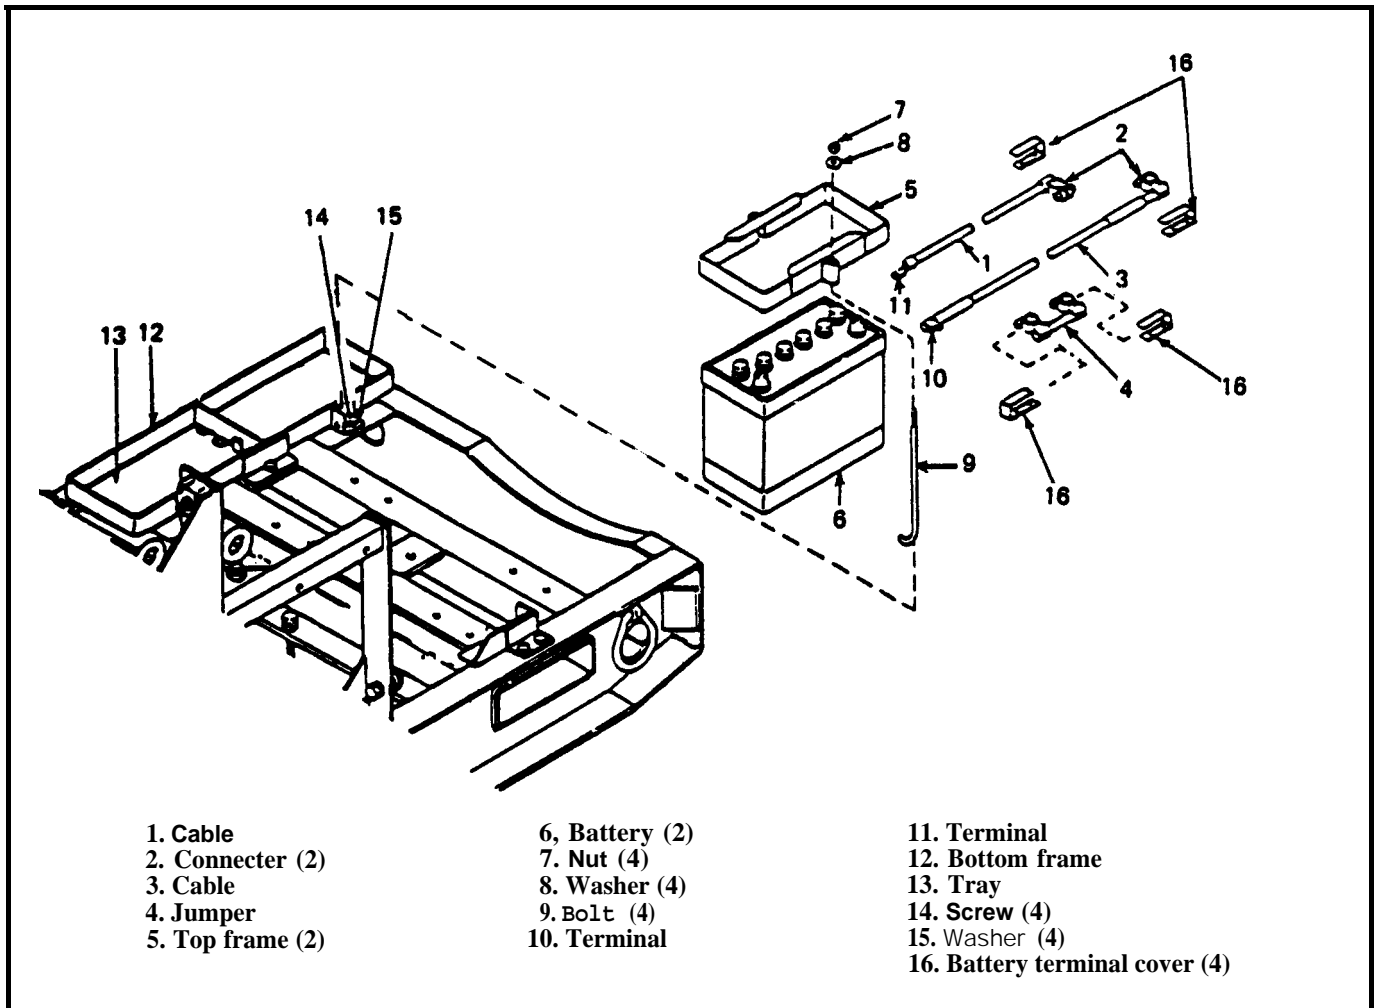

Figure 3-2. Battery Assembly
a. Inspect (see figure 3-2). On generators equipped with acoustic suppression kit (ASK), remove batteries access door for inspection.
(1) Inspect battery cable terminal connectors (2), (10) and (11) for corrosion, deterioration, or physical damage. Inspect battery terminal covers (16) for proper installation and physical condition. Replace if cracked, split or torn.
(2) Inspect cables (1), (3), and (4) for breaks, damage and deteriorated insulation.
(3) Inspect battery top frames (5), bottom frame (12), and tray (13) for corrosion or physical damage. Check to see that frame is held securely in place and that all attaching hardware, nut (7), washer, (8), screw (14), washer (15), and bolt (9), is securely in place. Check that frame is free of electrolyte.
(4) Inspect battery (6) for leaks or cracks. Check top of battery and battery caps for cleanliness. Check battery electrolyte (liquid) level. Level should be